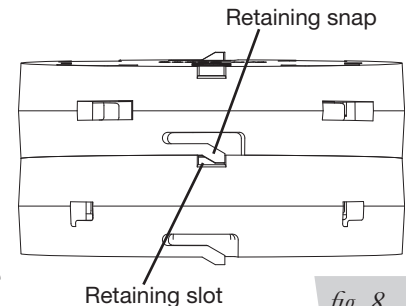

fig. 8
5. When the blocks are fully seated, the retaining snaps will lock into the retaining slots (fig. 8). CHECK BOTH SIDES OF THE LIFT BLOCK TO BE SURE THE RETAINING SNAPS ARE LOCKED IN PLACE.